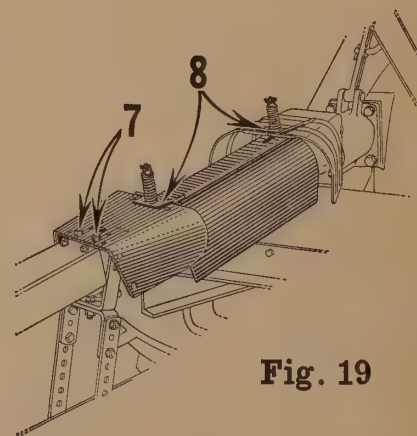

Fig. 19
7. (Fig. 19.) Bolt power shaft shield to rear set of holes in power shaft front bearing housing.
8. (Fig. 19.) Attach universal joint and pipe connection shield to take-off shaft shield and to shield on power shaft front bearing as shown.
New style shields are supplied for Models "AR" "159" and "AO" "165". Attach shields as shown at "7" and "8", Fig. 19.